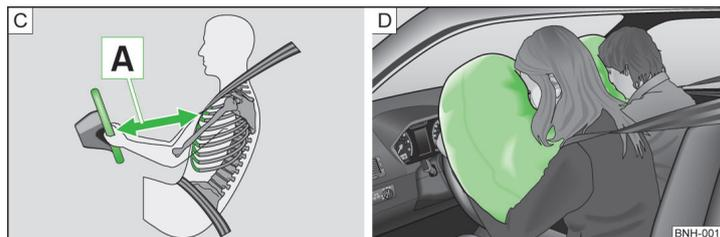

Fig. 9 Safe distance to steering wheel/inflated airbags
The airbags inflate in front of the driver and front passenger when they are deployed » Fig. 9 - [D]. The forward movement of the driver and of the front passenger is cushioned when they make contact with the fully inflated airbag and the risk of injury to head and chest is thus reduced. ▶
- For the driver and front passenger, it is important to maintain a distance of at least 25 cm from the steering wheel or dashboard **A** » Fig. 9. Not keeping to this minimum distance will mean that the airbag system will not be able to properly protect you – risk of death. The front seats and the head restraints must always also be correctly adjusted to match the body size of the occupant.